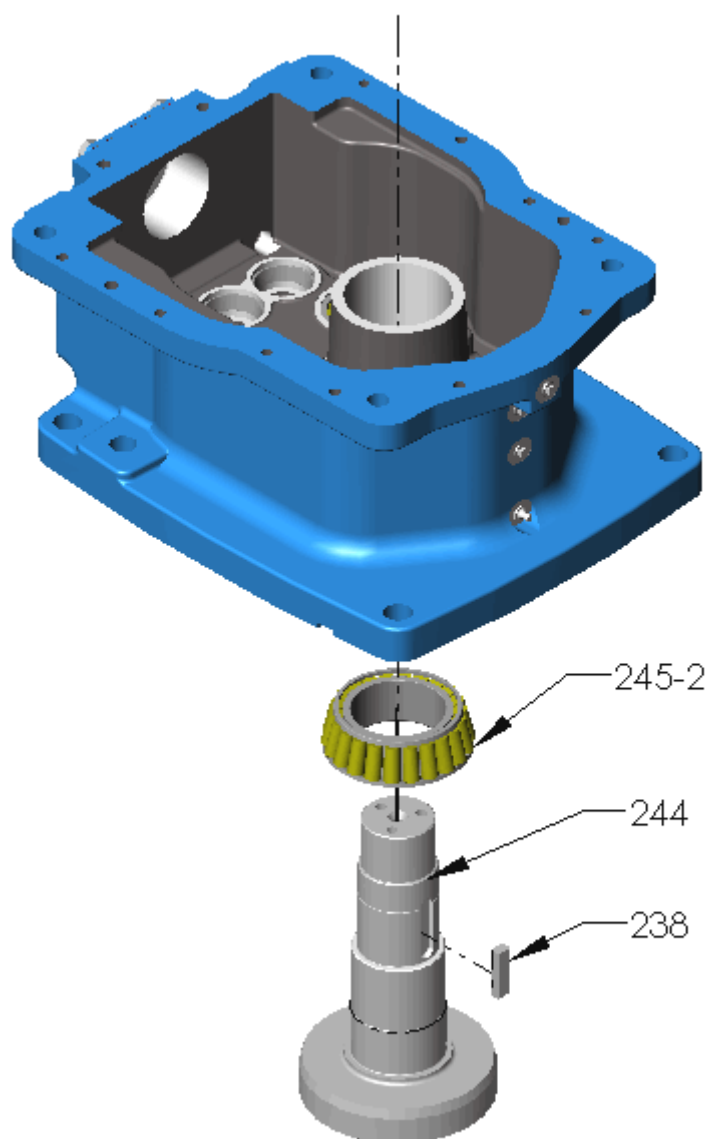

Figure 15 –Output shaft
- C. Output shaft assembly (refer Figure 15).
- D. Lift the bottom case and align with output shaft assembly [244] (refer Figure 15).
- E. Carefully lower bottom case until bearing [245-2] is seated (refer Figure 15).